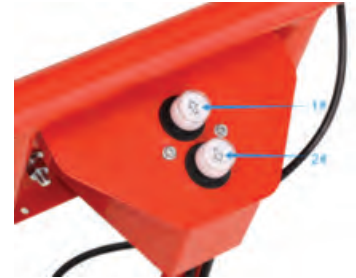

FIGURE 4
4.2.2 Once the power is on(**FIGURE 4**):